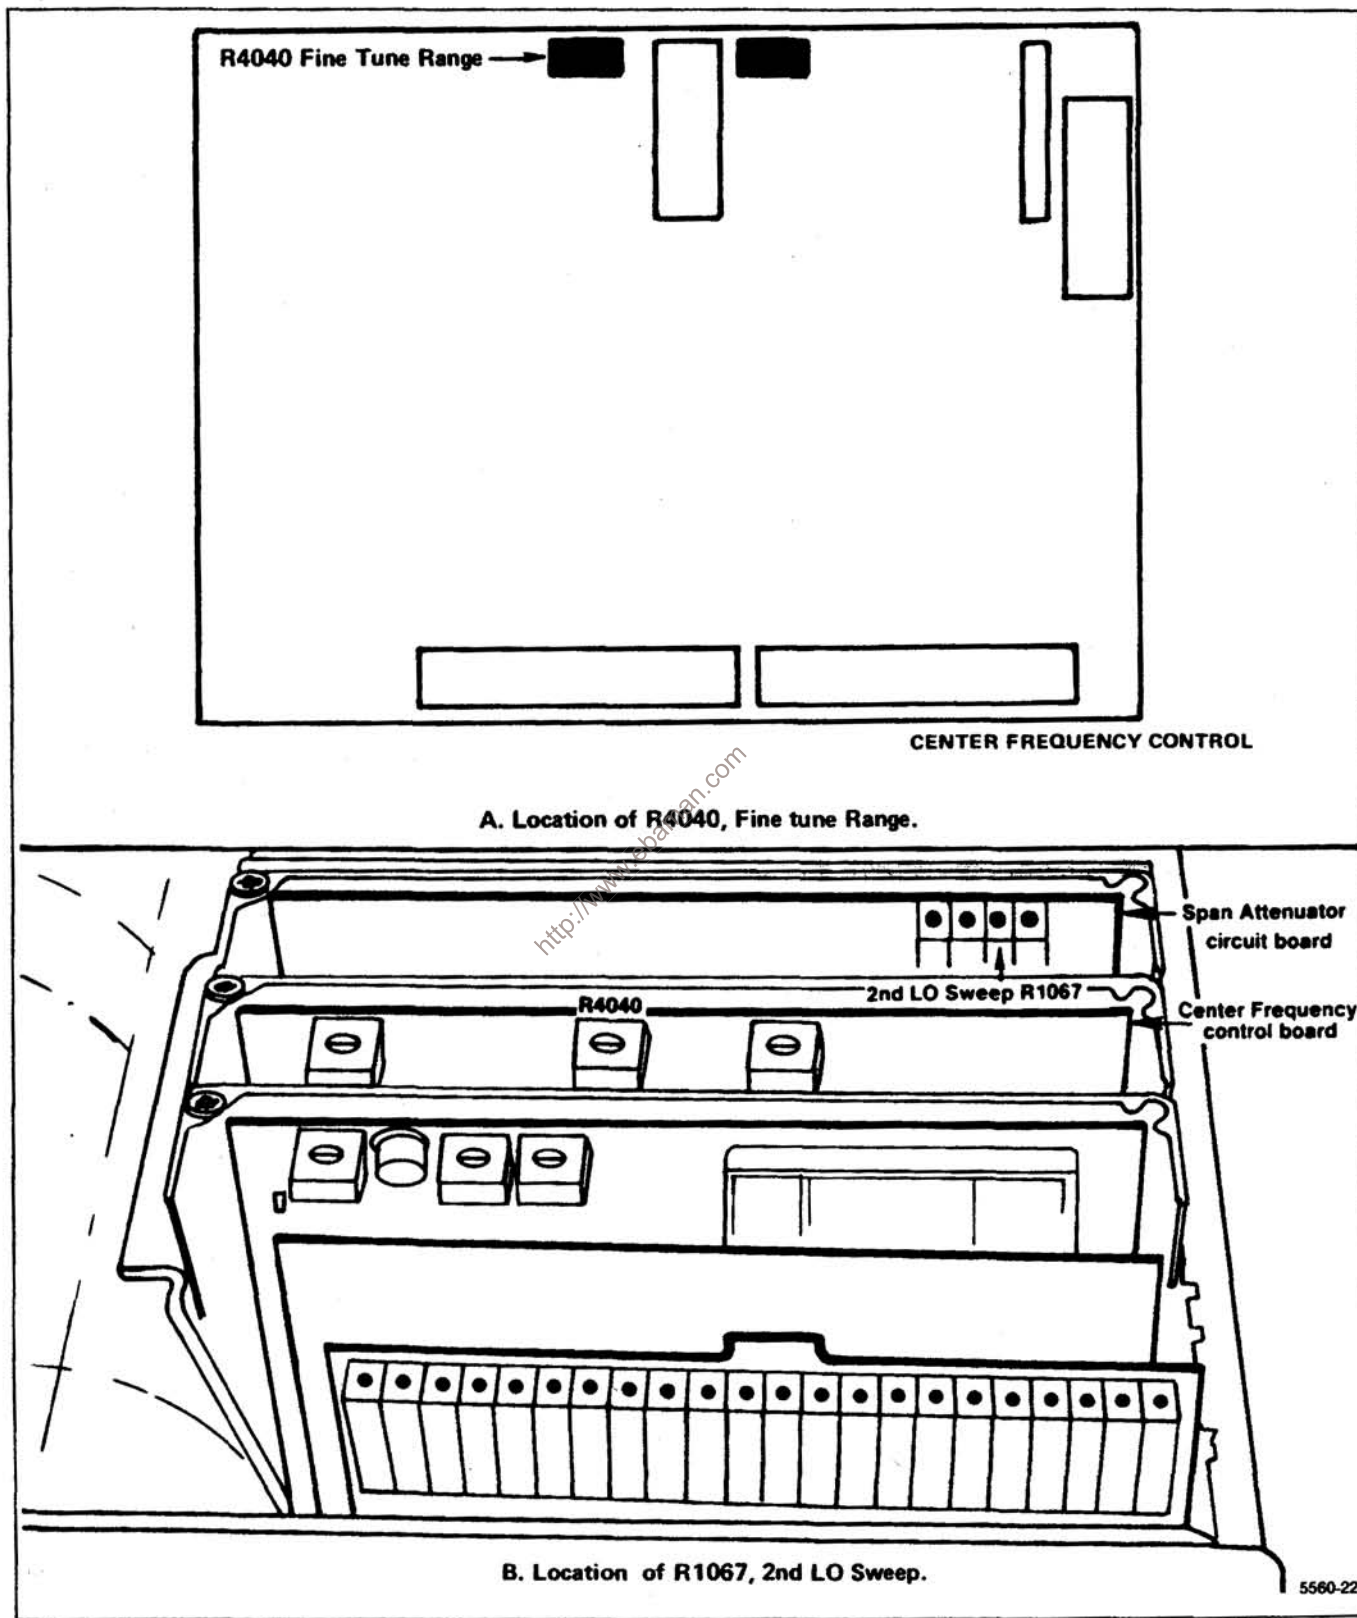

Figure 6-24. Tune and Sweep Range adjustments.
(3) If one of the pads provides a frequency that is within the range of $17.5\text{ MHz} \pm 0.25\text{ MHz}$, solder the wire strap to this pad. If the frequency is still outside the range, move the jumper to the other pad for T2092 and repeat the procedure. Frequency must equal $17.5\text{ MHz} \pm 0.25\text{ MHz}$.
a. Center the Fine Tune adjustment R4040, on the Center Frequency Control board and the 2nd LO Sweep adjustment R1067, on the Span Attenuator board (Figure 6-24).
c. Adjust the 2nd LO Sweep R1067, on the Span Attenuator board (Figure 6-24), so the comb lines on opposite sides of the screen, are exactly 8 major divisions apart.